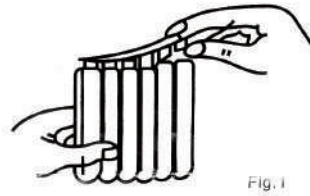

Fig.1
1. Remove filler cap strip (where fitted) (Fig.1) from bottle, to expose silver sealed foils, do not remove the silver foils